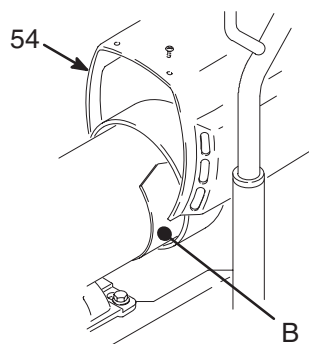

Fig. 9
2. Remove motor shield (54). Remove inspection covers (B) and gaskets on each side of motor. See Fig. 9.